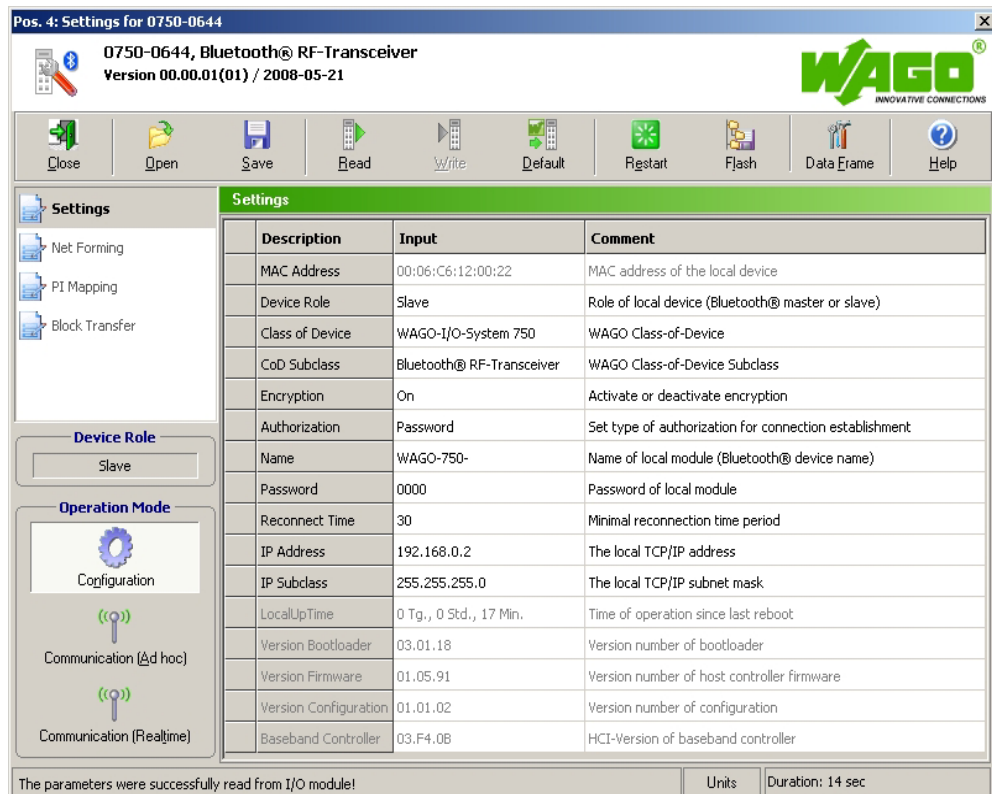

Figure 46: Bluetooth®-specific parameter area
4. In the module's context menu, choose **Settings**. This opens the *Bluetooth*®-specific parameterization dialog of the module (see Figure 46).